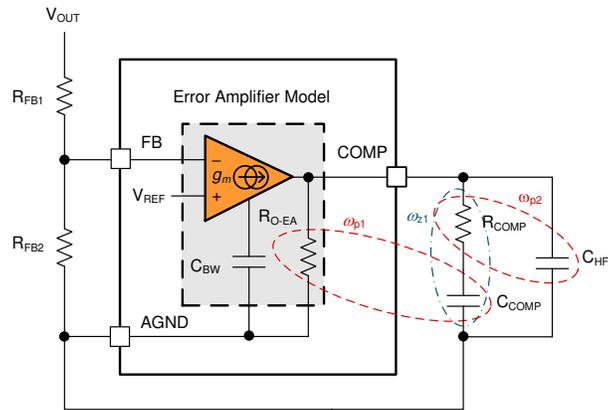

图 9-4. Error Amplifier and Compensation Network
图 9-4 shows a type-II compensator using a transconductance error amplifier (EA). The dominant pole of the EA open-loop gain is set by the EA output resistance, $R_{\text{O-EA}}$, and effective bandwidth-limiting capacitance, C_{BW} , as shown by 方程式 29.